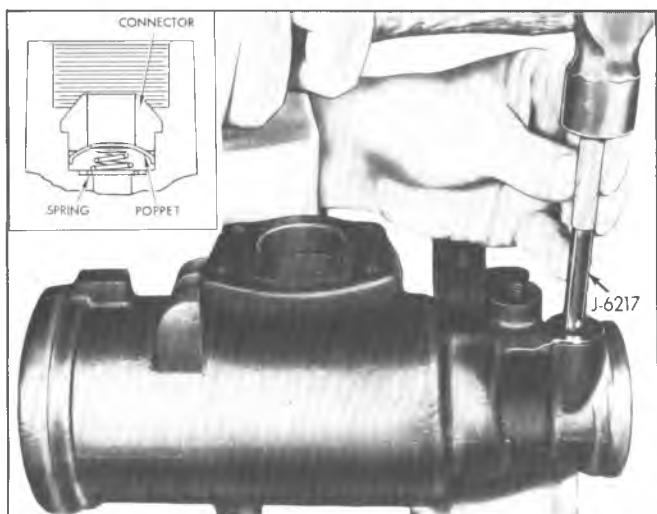

Fig. 49-Installing New Connector in Housing
5. Drive the new connector against the housing seat using Tool J-6217, being careful not to damage either the connector or housing seat (fig. 49).